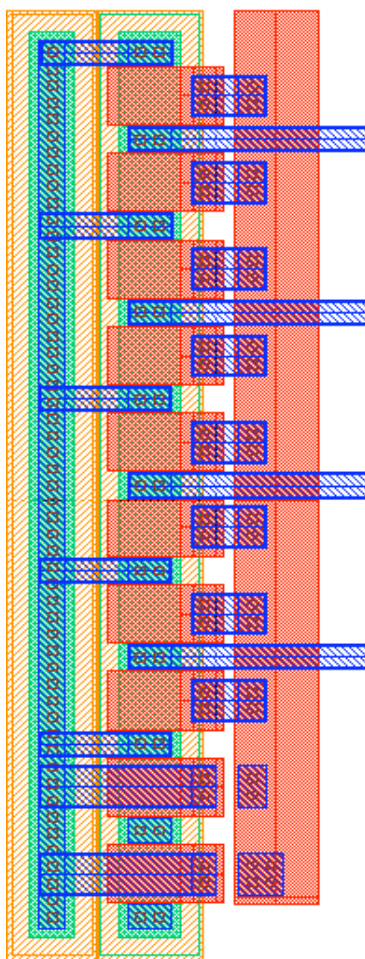

Figure 70: Inner connection for leaf I_{refx8} .
9. Repeat steps 2 to 6 to create paths connecting the transistors for I_{refx8} . Make sure they are connected in parallel (as shown in Ch1) in order to have $S = 8$. The finished one should look like Figure 70.